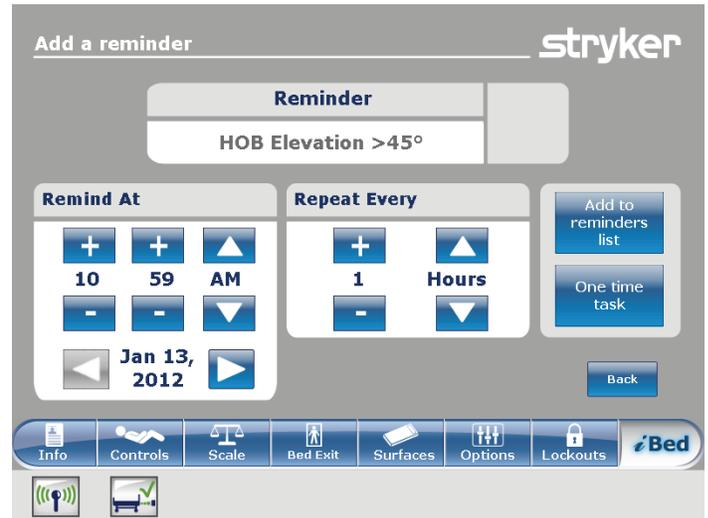

Figure 96 – Setting a repeating reminder
6. Set the desired time interval for the repeated reminder (Figure 96).